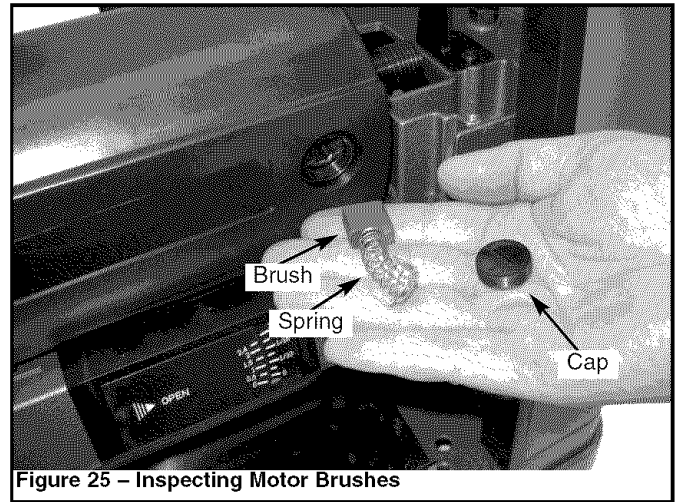

Figure 25 – Inspecting Motor Brushes
- Loosen brush cap and carefully remove brush from motor. Be careful of springs (see Figure 25).